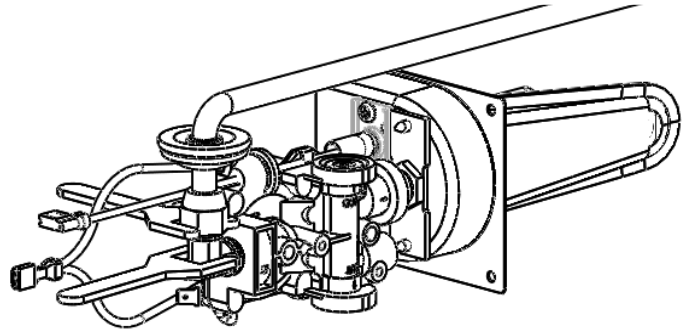

Figure 6
- Connect gas line to top or rear of furnace. See gas connection Figure 6.